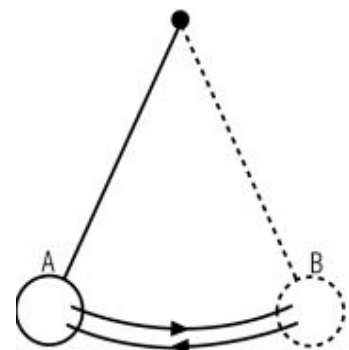

Figure 4-4. To make 1 complete oscillation, the mass must travel from position A to position B, and BACK to position A.
- Stop timing after 10 complete oscillations. See Figure 4-4.